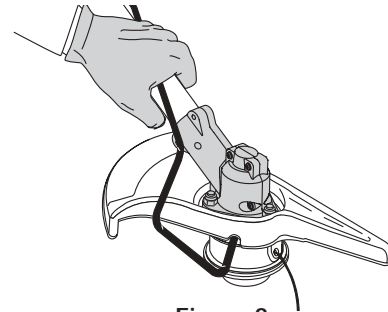

Figure 9
2. Hold the locking rod in place by grasping it next to the boom of the unit. See Figure 9.